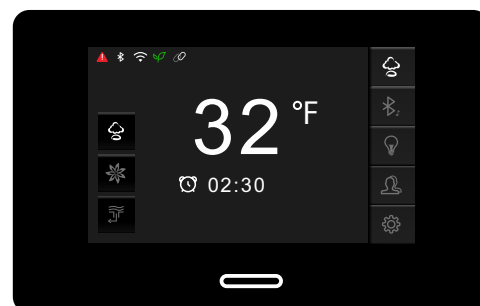

Figure 3
When control panel is on, press  on the left of screen to turn on/off the steam function. (Figure 3)
- Press  to enter aroma pump operation interface. (Figure 3)